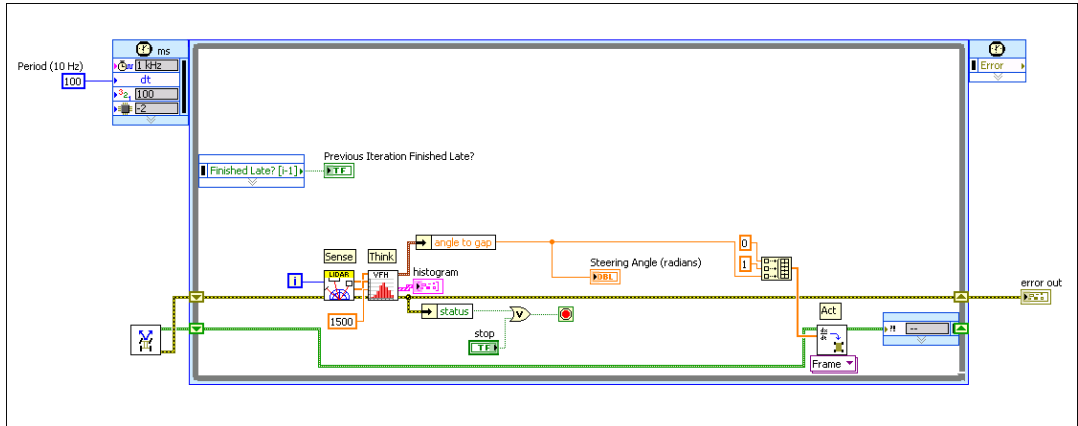

Figure 8. Block Diagram of the Single Control Loop (Simulated) VI
2. Select **Window»Show Block Diagram** to display the block diagram of the VI, as shown in Figure 8.